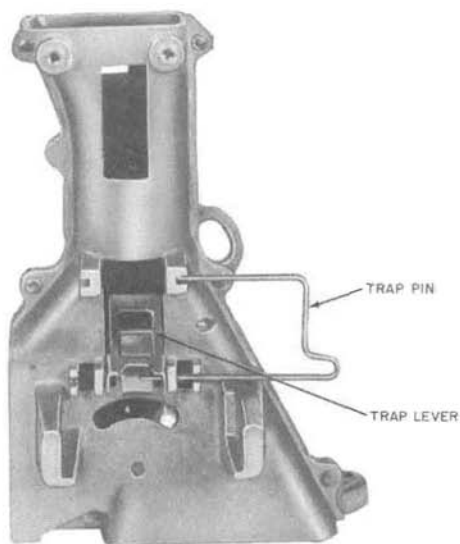

Fig. 8—Placing Trap Lever Pin on Hopper (Typical)
- (4) Place trap lever on trap pin (Fig. 8)